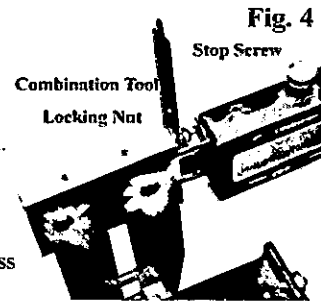

Fig. 4
3.2.8 Using the combination tool provided, loosen the Locking nut (fig.4.) and turn the Positive stop screw in or out until the display reads exactly  $-4.000 \pm .001$  in. Press the zero button to zero the display.